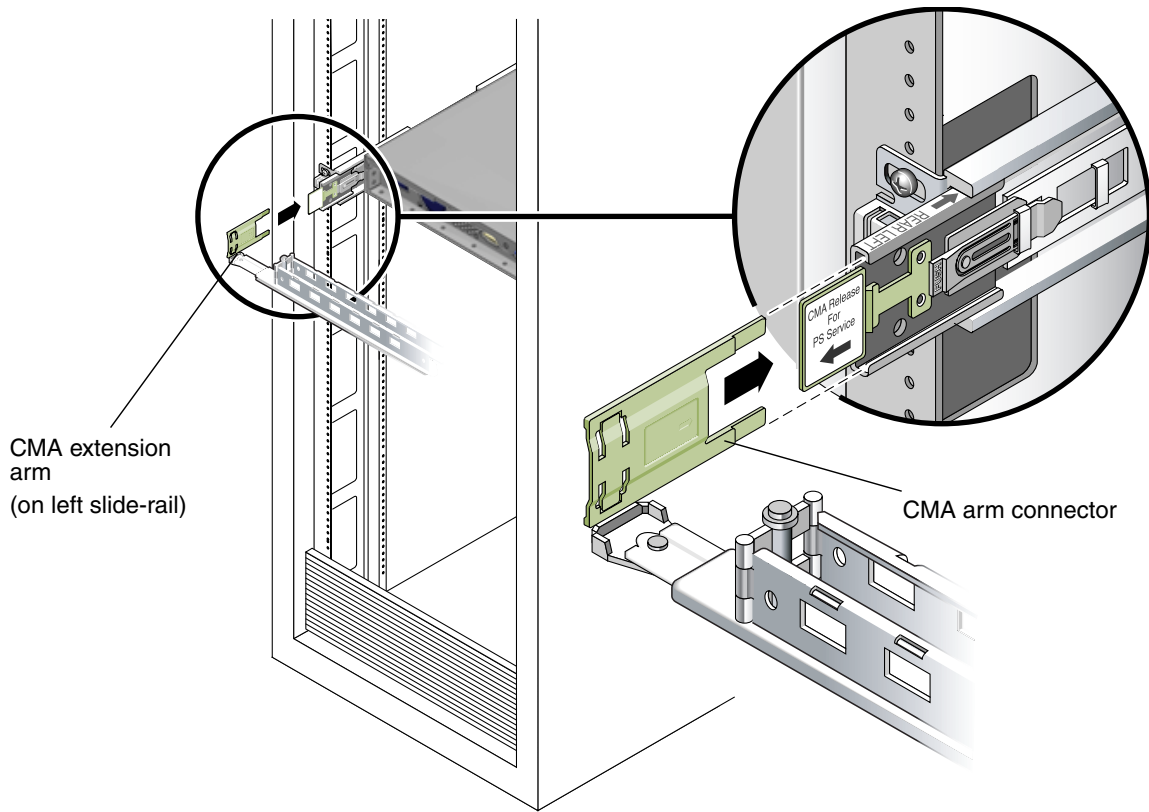

FIGURE 1-12 Connecting the CMA Arm to Rail Extension Connector
7. Insert the right CMA slide-rail connector into the left slide-rail assembly until the connector locks into place with an audible click. (See FIGURE 1-12.)